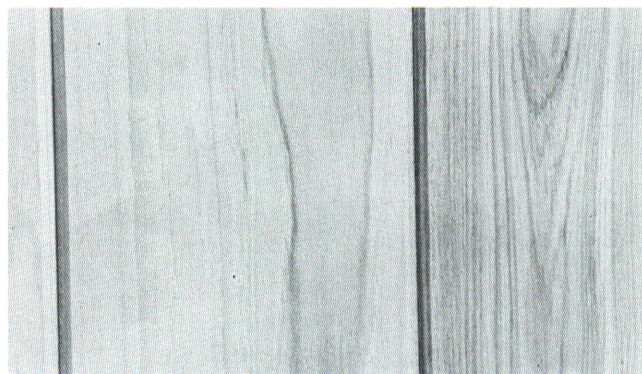

Figure 14—Tangential face of teak.
18. Golden brown, subdued figure on tangential face, surface slightly oily or resinous when rubbed by thumb (Fig. 14) ..... **Teak**
24. Oily to touch, medium to dark brown (Fig. 14) ..... **Teak**